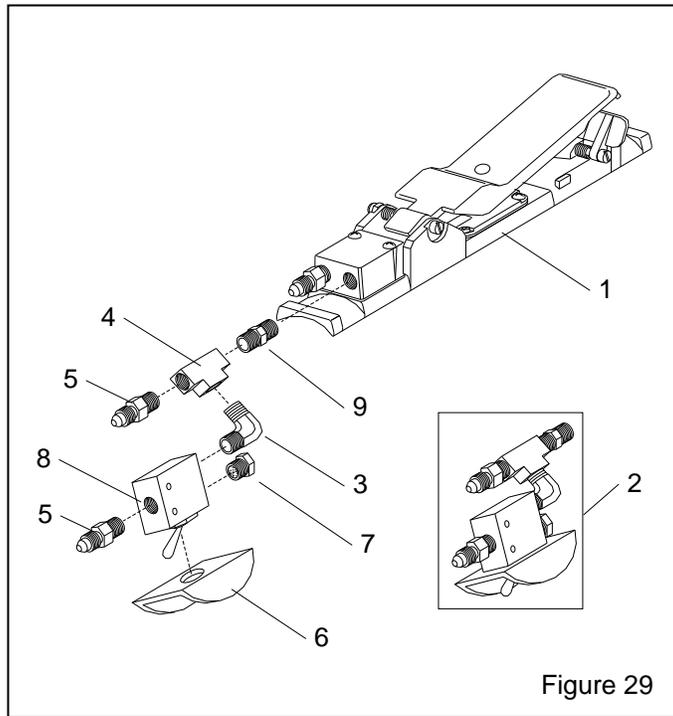

Figure 29
8.12 RLX Pneumatic Control Handle with ACS, Figure 29